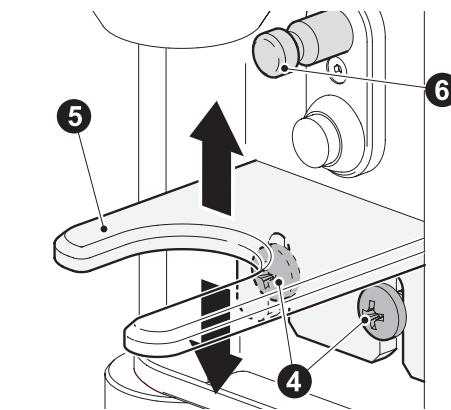
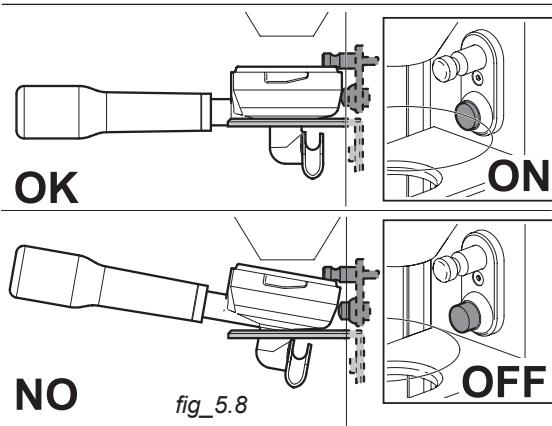

fig. 5.7
fig. 5.8
All models are supplied with a fork height adjustment device. To change the height, loosen the screws by half a turn (4 - fig. 5.7) and move the fork (5) to the desired position. The correct height of the fork (fig. 5.8) is obtained when the profile of the filter holder fits perfectly in the groove of the support pin. (6 - fig. 5.7) Fasten the screws to guarantee a secure support to the filter holder.